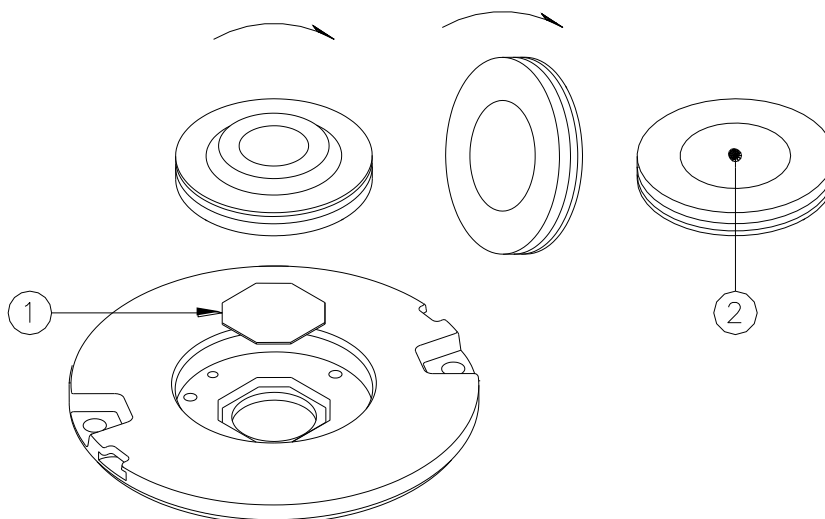

Figure 23 – Lens Surface to be Cleaned
- turn the aluminium ring upside down as shown in Figure 23 and polish the lens (Figure 23 - n° 2) and filter surfaces (Figure 23 - n° 1) with non abrasive glass product